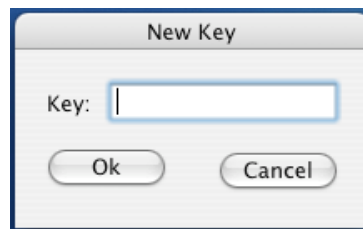

Figure 1.2.4 Recommended directory structure for running VGRID and POSTGRID.
**If you are running the Mac variant of SimpleView :** the very first time that you run SimpleView, a pop-up box (shown in Figure 1.2.4) will appear, prompting you to enter the key string.
Note : Mac users upgrading to SimpleView Version 2.5 from SimpleView Version 2.2.3 will have to enter their existing key string into the prompt shown in Figure 1.2.4 the very first time that they run SimpleView Version 2.5.